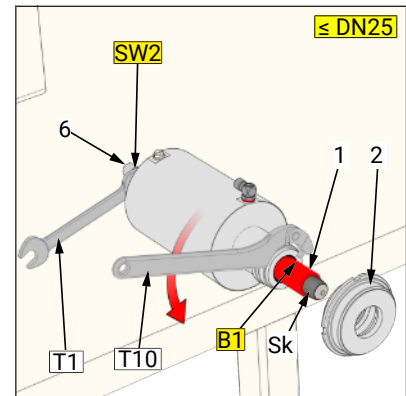

Figure 3
- Fig. 3 Dismounting via bore (B1) (\leq DN25). So that the bore (B1) will be visible, first unscrew the insert (2) as shown in figure 3.